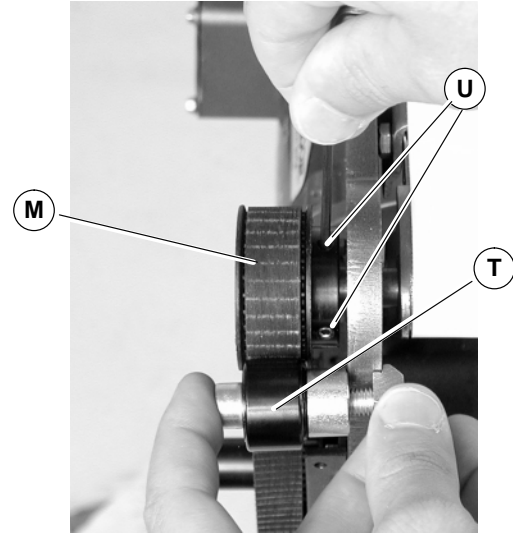

Figure 15
7. Wrap timing belt (P) around driven pulley (M) and drive pulley (J). Install driven pulley (M) onto conveyor shaft.
8. Remove cam bearing and spacer (T of Figure 13). Place the cam bearing and spacer (T of Figure 15) next to the driven pulley (M). Ensure the flanges of the driven pulley are aligned with the cam bearing. Tighten driven pulley set screws (U). This will allow for proper belt alignment while conveyor is in use. Replace cam bearing and spacer (T).